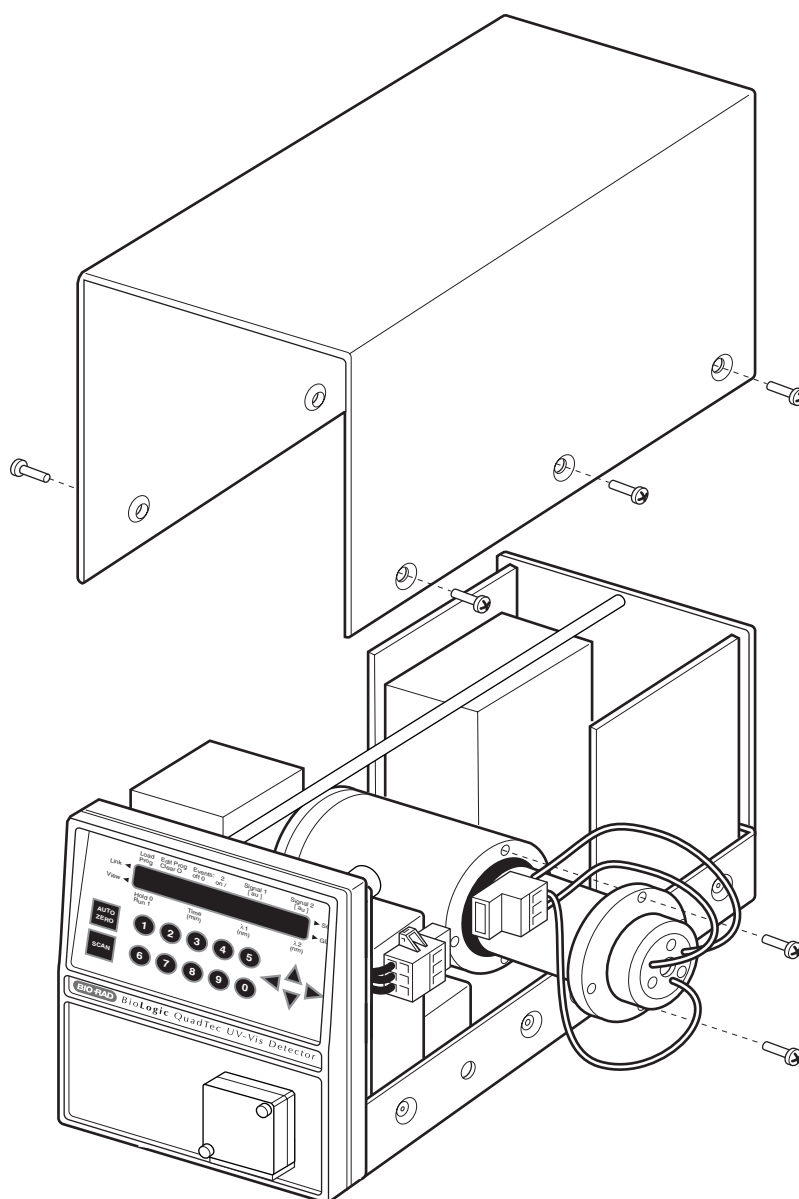
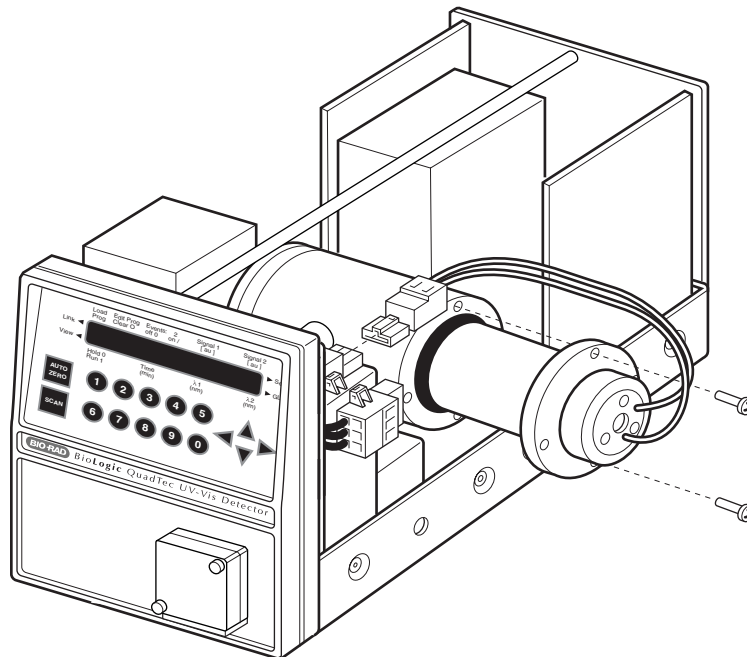

Figure 5-1. Replacing the Deuterium Lamp
Figure 5-2. Replacing a Halogen Lamp
3. The lamp is located in a black housing on the right side of the instrument. The Deuterium lamp is shown in Figure 5-1; the Halogen lamp is shown in Figure 5-2.